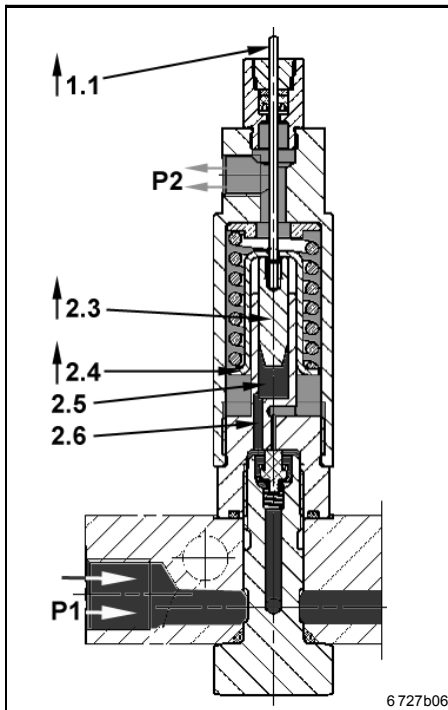

Fig. 4 Metering procedure
Metering procedure (see fig. 4):
- For a shifting the pressure P1 in the main line and the divider bars must fall below 60 bar so that the compression spring 2.1 can relieve and press the pre-metered amount of lubricant from the metering chamber 2.5 (Fig. 4 or 5) into the distributing chamber 2.2.